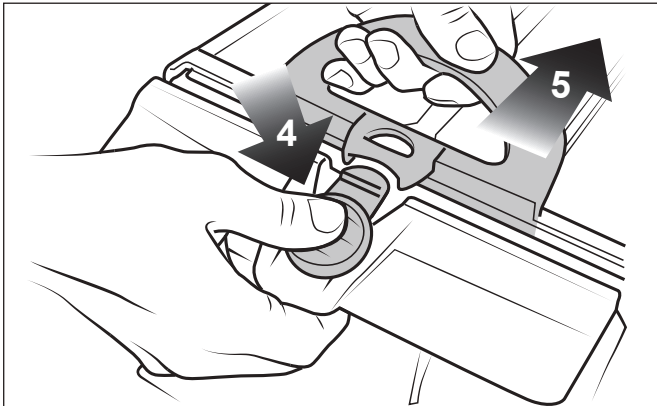

Figure 15. Open Filter Canister Assembly
5. Push the quick release button on the canister assembly (4) and pull open (5) as shown in Figure 15.